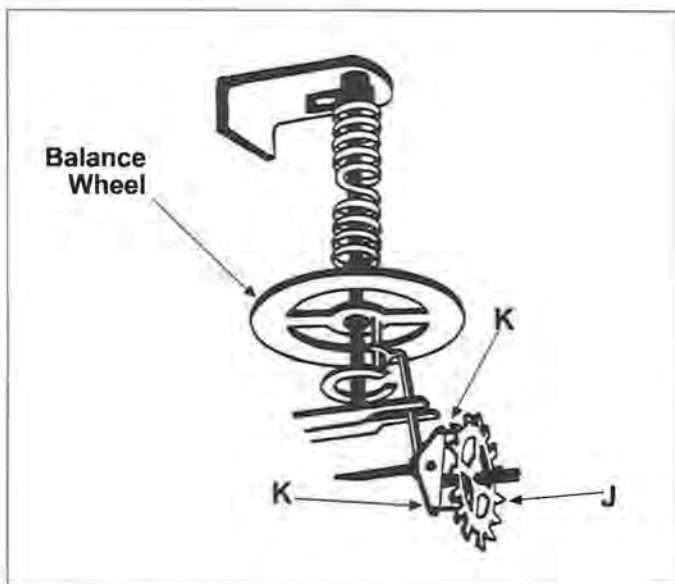
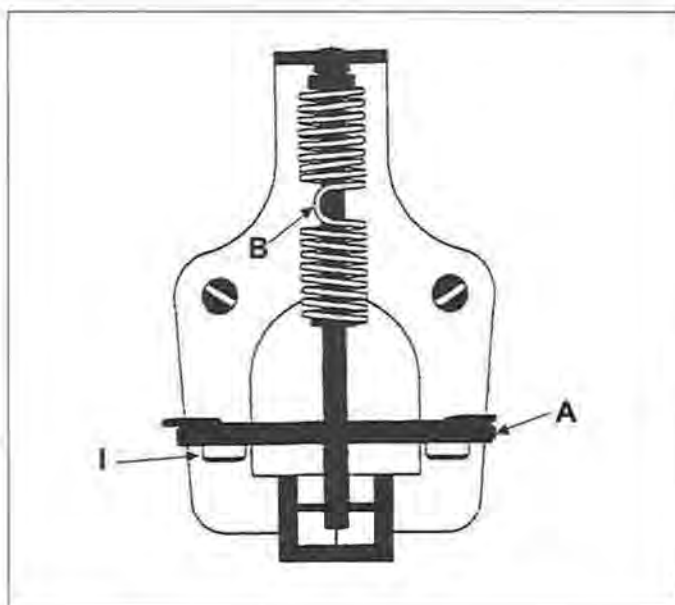
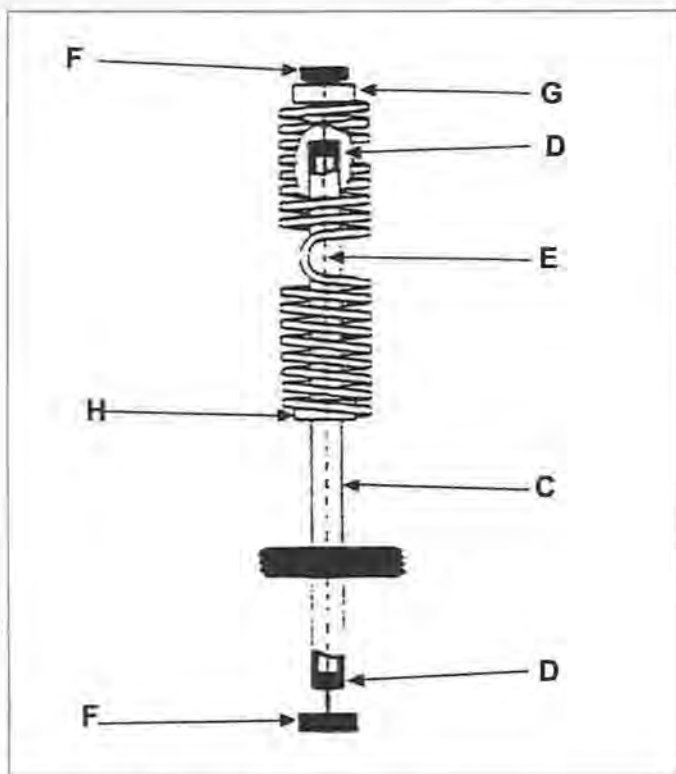

Figure 1. Floating Balance Escapement
Figure 2. Parts of a Floating Balance
Figure 3. Cross Section of the Balance Tube
The floating balance (oscillating) escapement is a variation of the pin lever escapement (see Figure 1). It employs a fork slot end of a pin lever pallet to engage with two steel impulse pins that rotate at right angles in a vertical position. During the 1970s and 1980s the floating balance was used on bracket and tambour clocks containing German movements. During the late 1980s, the unit was redesigned and the floating balance was replaced with a conventional balance wheel.
In Figure 2, the balance wheel (A) hangs in an oscillating manner on a spiral hairspring (B) with one half of the windings to the right and the other half to the left. As illustrated in Figure 3, the balance staff (balance shaft) is a hollow tube (C), with a jewel friction-fitted into each end (D). A length of spring steel wire (E) is tightly drawn through the balance shaft and end jewels and then attached to the upper and lower arms of the balance carrier assembly at (F). At the upper end, the helical spring is attached to a collet on the balance carrier assembly (G). The lower end is attached by a collet on the shaft (H). Two weights, (I) in Figure 2, are fitted clutch-tight and held by a spring against the inside track of the balance rim. These are used for regulating. As illustrated in Figure 1, the pin pallets (K) are located on the verge at the bottom of the lever and travel in and out between the teeth of escape wheel (J). With the balance hanging in a floating mode from a spiral spring there are no arbor pivots to support the weight of the balance wheel, eliminating that source of friction. Contact friction at the end jewels is negligible.